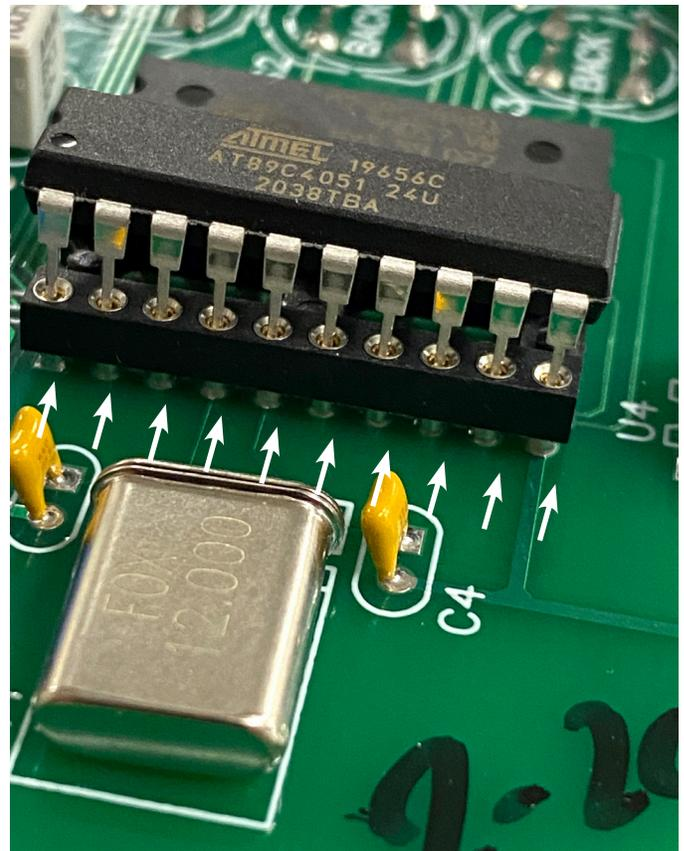

FIGURE 6—The white arrows show the pin-to-hole alignment.
- Place the new chip on top of the connector on the board and make sure that the chip pins on both sides of the chip align with the holes on the board (see Figure 6).